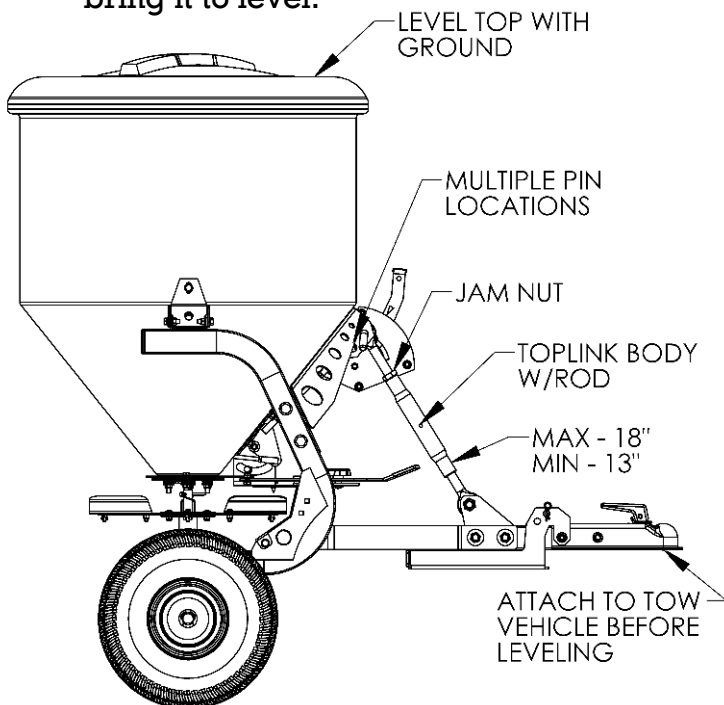

FIGURE 13.1
- Locate the Leveling top link in the front of the unit. **See FIGURE 13.1**